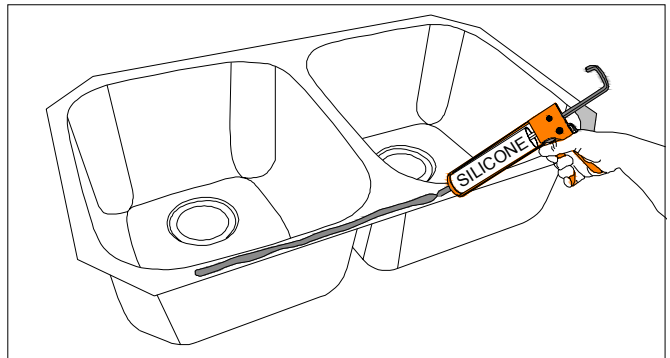

Figure 7B
- Apply a generous bead of 100% clear silicone to the top surface of the sink rim. (FIG. 7B)